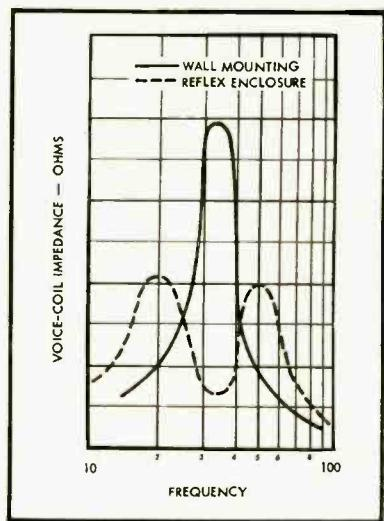

Fig. 14. Impedance curves of reflex enclosure vs. infinite baffle.
- (1) Reduction of cone velocity at resonance but an increased radiation efficiency around the frequency due to vent radiation.
- (2) Increased power handling capacity.
- (3) Improved transient response due to increased damping at resonance.
- (4) Reduced distortion due to reduced cone amplitude.
The resonances  $f_1$  and  $f_2$  are spaced either side of the cone resonance and are equal in amplitude. Impedance curves comparing similar speakers (A) on an infinite baffle and (B) in a reflex cabinet are shown in Fig. 14.